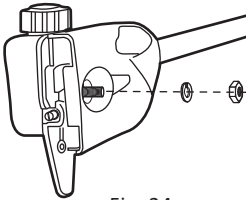

Fig. 24a
10). Put it together with the spring washer (4) and cover (2), and tighten locking nut (3) with the socket wrench clockwise. (See Fig. 24a, 24b)